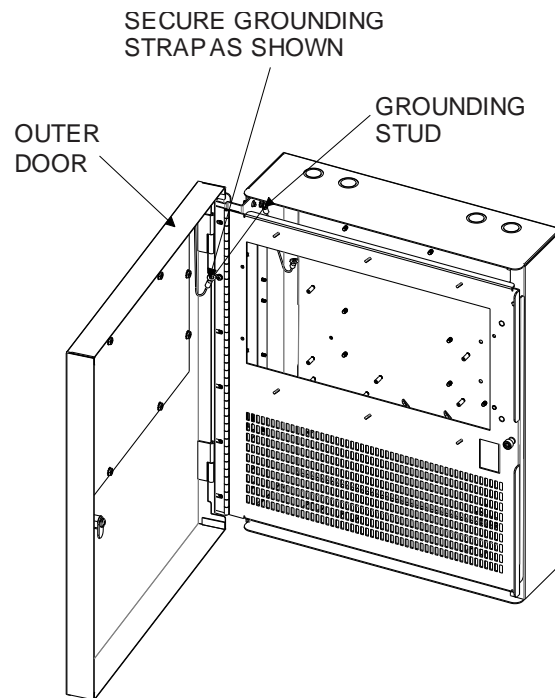

Figure 5: Mounting the Outer Door
6. Install the outer door, as shown in Figure 5, and connect its earth ground connection.